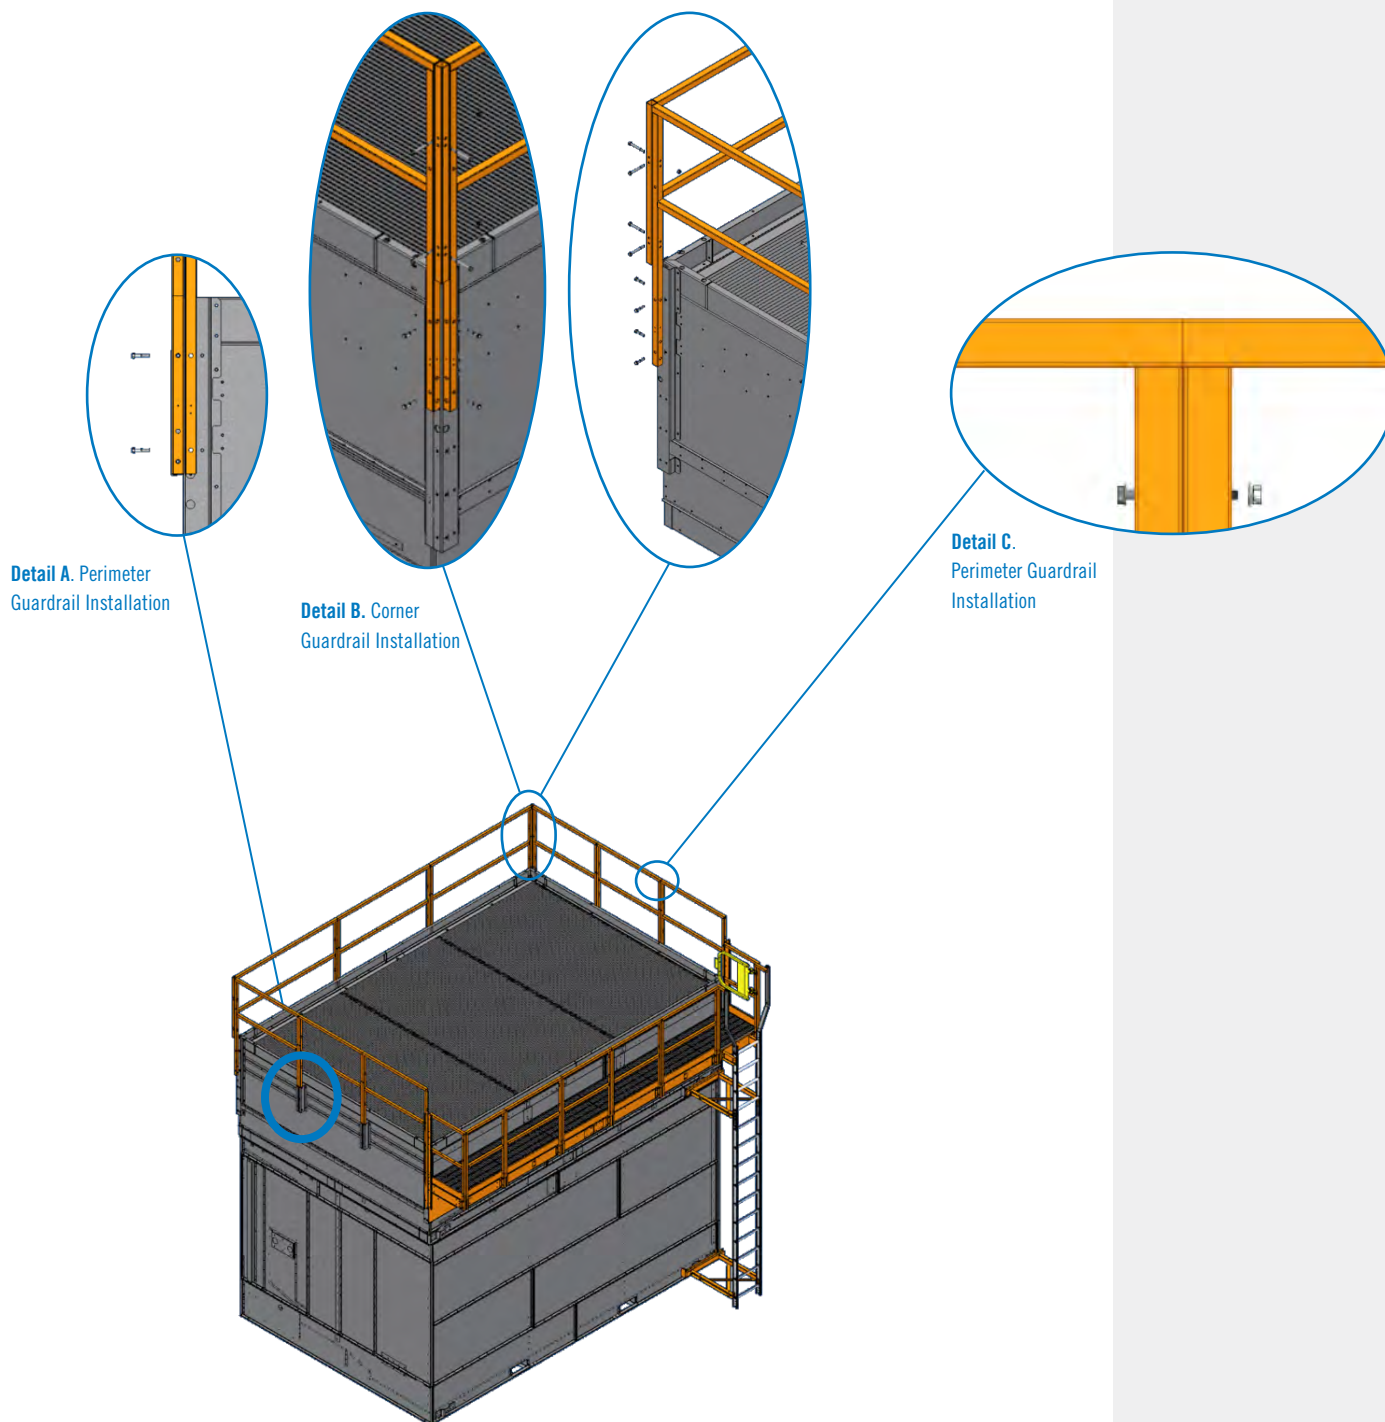

Figure 10. Perimeter Guardrail Installation
6. Using the supplied hardware, install the perimeter guardrails at the bracket points as shown in **Figure 10, Detail A and Detail B.**
7. At the point where two vertical support meet, install the factory supplied fastener through each support as shown in **Figure 10, Detail C.**